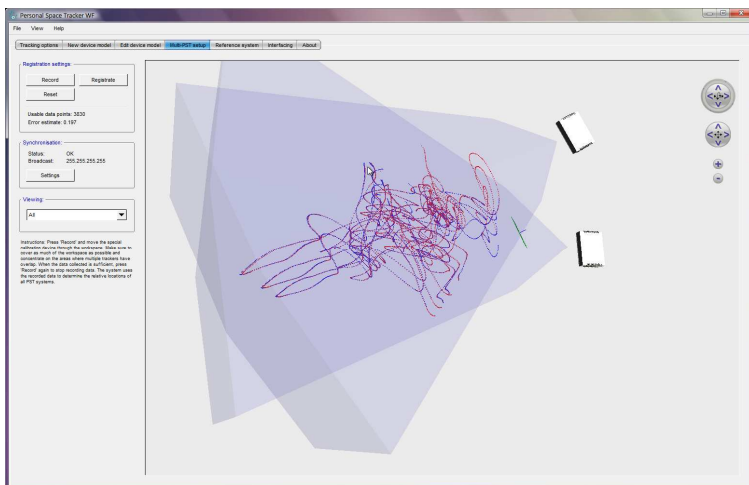

Figure 6.17. Registration results
- Press the “Register” button to execute the registration procedure. This can take from a few seconds to a couple of minutes, depending on the size of the data. Upon completion, the registration results are shown in the live view. The recorded point trajectories should be placed over each other (as illustrated in Figure 6.17), where the error estimate indicates the quality of the registration. A number below 0.5 is generally a good value.